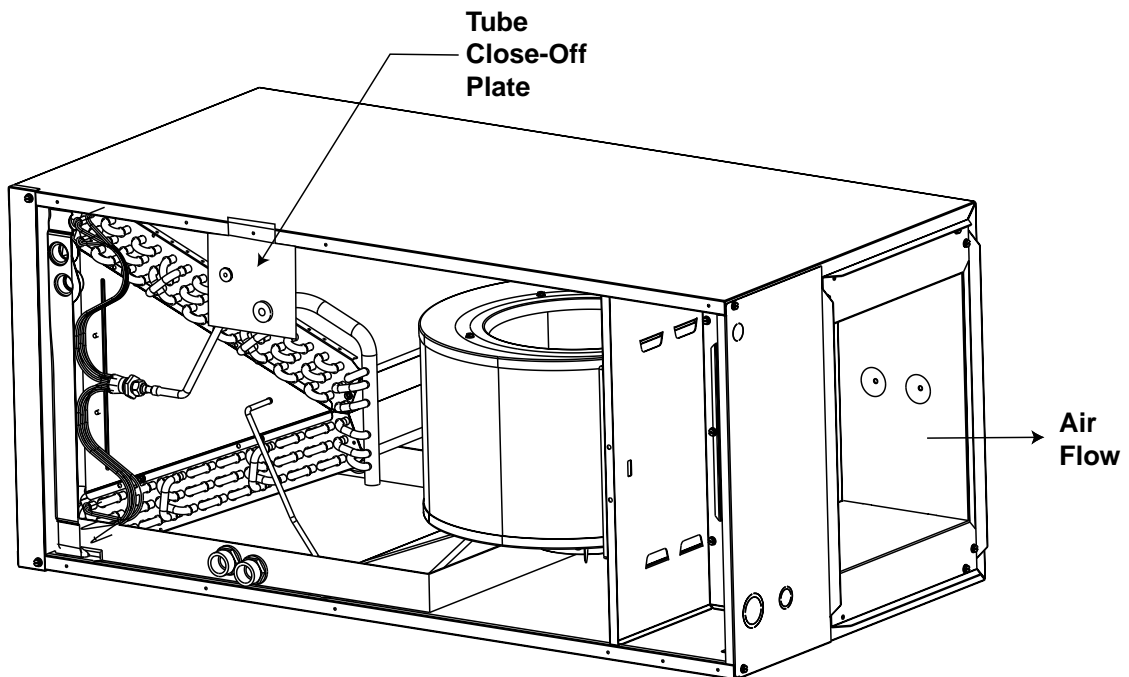

Figure 7.
- 10) Place the tube close-off plate over the suction and liquid headers and screw onto front cabinet rail. (See Figure 7.)